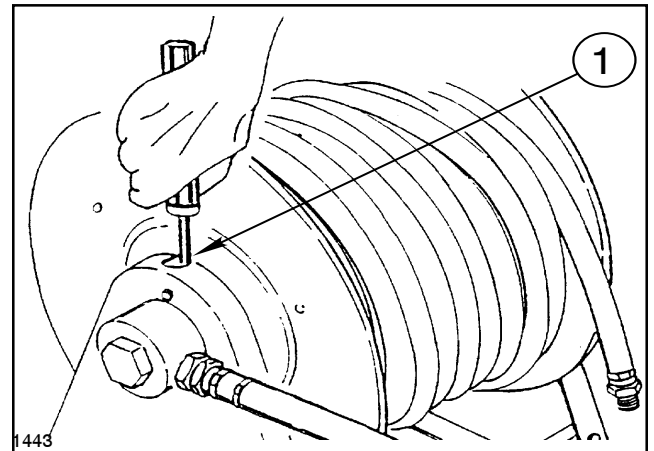

FIG. 2
2. If the spool is running faster than desired, causing hose backlash, adjust the “drag” by tightening the set screw on the hub casting. See FIG. 2.